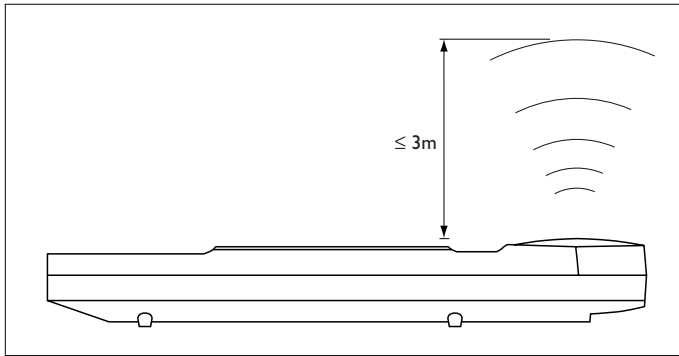

Figure 5 Radiation pattern in "teach mode"
- When the transmitter is used as a programming tool the infrared radiation pattern is reduced to a narrow beam, in order to facilitate selective programming of luminaries. Therefore the transmitter must be held directly under the receiver and the distance from transmitter to receiver must be less than 3 meters. (see figure 5)